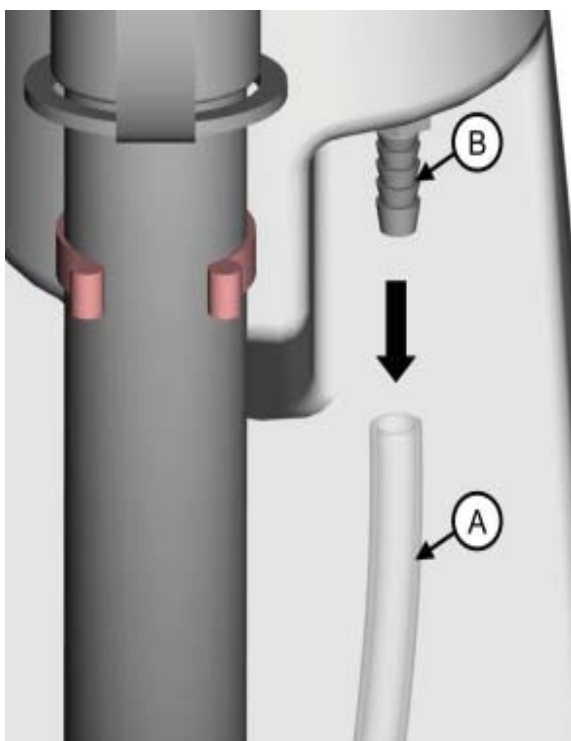

Figure 4
The solution tank may be drained by removing the **Solution Tank Drain Hose (A)** from the **Hose Barb (B)** and routing the hose to a floor drain. (See Figure 4)